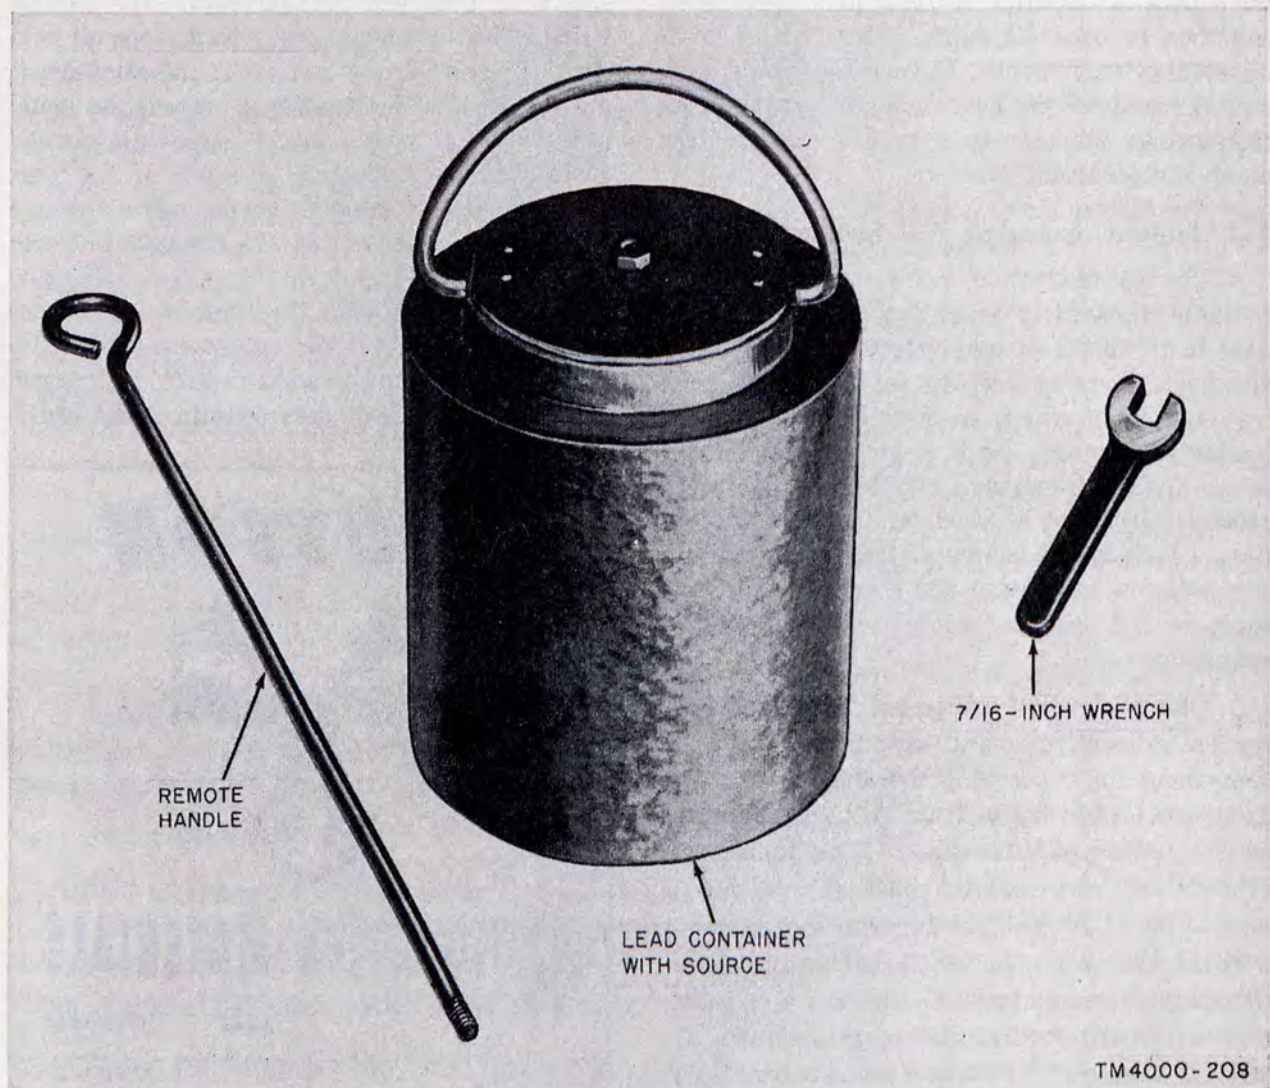

Figure 103. Radioactive test sample.
a. The simplest type of radiac calibrator is a radioactive sample like the one shown in figure 103. Test samples contain small amounts of radioactive material, such as radium or cobalt 60. The sample shown contains cobalt 60, a source of beta and gamma rays. The sample is imbedded in a metal rod which stops all beta rays. To prevent any dangerous radiation levels during the time the sample is stored, the metal rod with the sample is placed inside a large lead container. The radiation strength of the area surrounding the sample depends upon the age of the sample as well as the distance between the area and the sample. To make calibration setup calculations easy, the samples are accompanied by charts that plot age-versus-radioactivity and also distance-versus-radiation strength. Some radiac detector sets contain small radio-